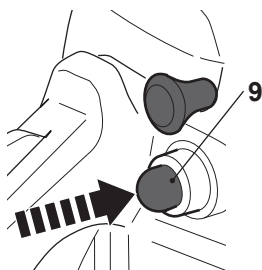

Fig. 20
Press the primer (9) when starting the product with a cold engine (Fig. 20). Do not press the primer for warm starts.